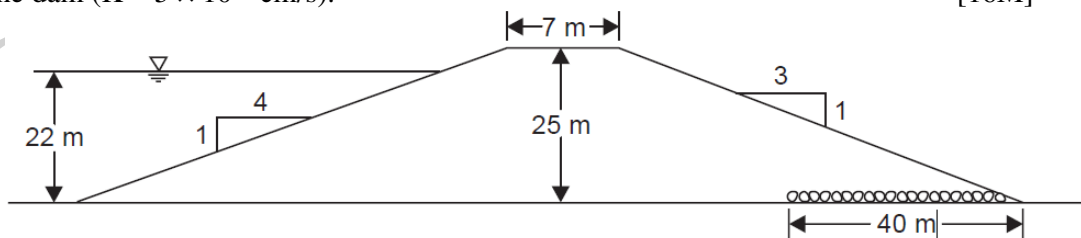

Fig 2
7. For the earth dam of homogeneous section with a horizontal drain as shown in Fig.2, draw the top flow line and the flownet. Also estimate the discharge per metre length through the body of the dam ($K = 5 \times 10^{-4}$ cm/s). [16M]